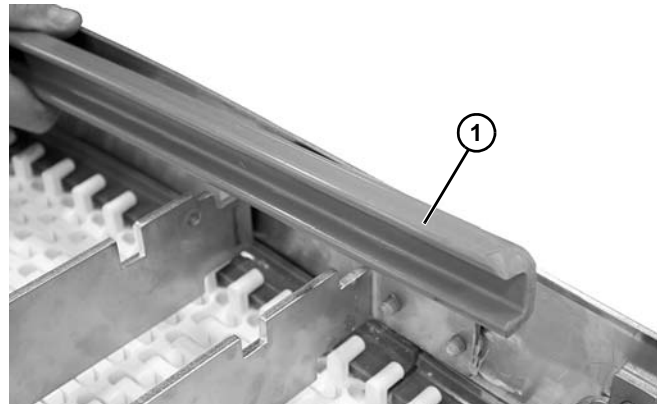

Figure 43
2. Remove the upper wear strip (**Figure 43, item 1**) from the frame.